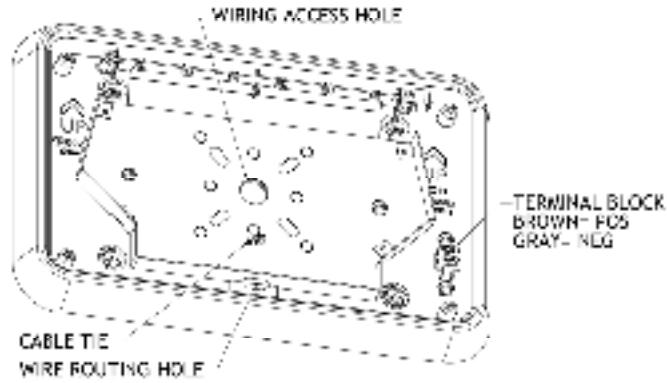

Figure 3
- Wiring (Fig. 3): Route 12” supply wire pigtails through WIRING ACCESS HOLE. Secure supply wires with CABLE TIE provided. Connect supply wires to appropriate terminals in TERMINAL BLOCK. Lead color coding: Gray= Negative, Brown=Positive.